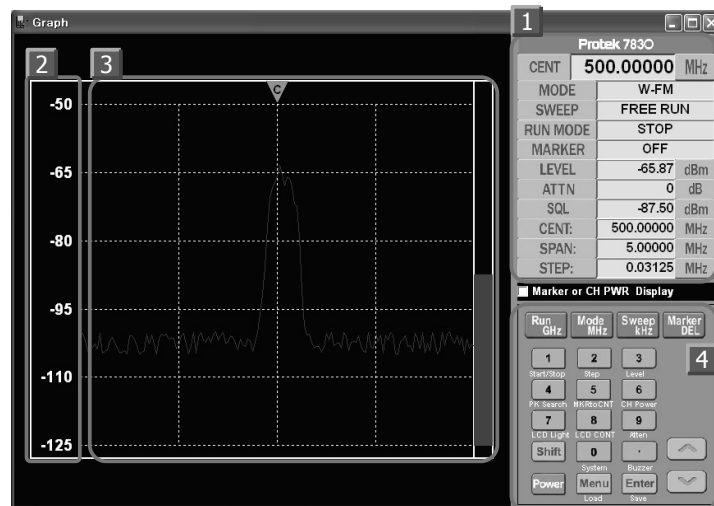

Figure 4.16. Keypad mode on graph window
- 4) Look at graph window left side, there is “Maker or CH PWR display” check box. Basically didn’ t check as figure 4.16 support keypad mode.
- 6) Basically explain figure 4.16 figure. 4.16 figure note 1 to 3 same as
- 10) Figure 4.16, note 4 as keypad mode, GUI measuring instrument similar with practical measuring instrument. In detail instruction refer to “3. GUI software keypad instruction.